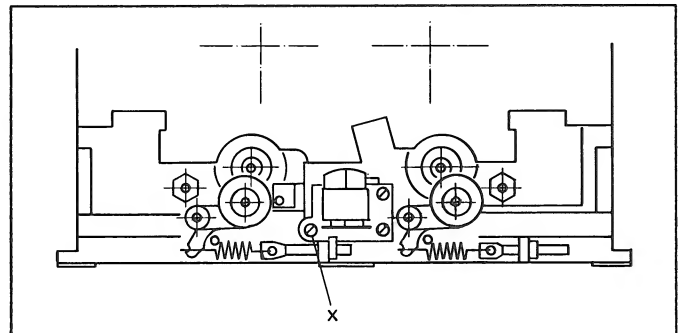

Fig. 5.2
- Align to minimum phase error with screw [X] (Fig. 5.2)